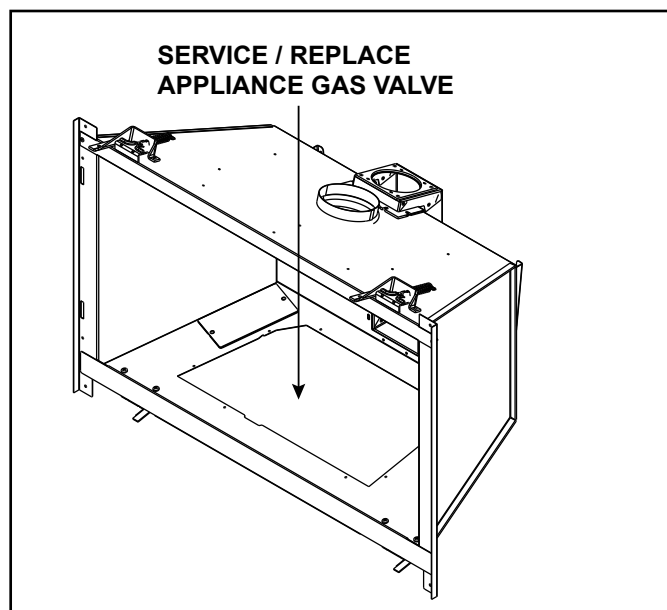

Figure 7.6 Gas Valve Detail
- See Figure 7.6.
- Remove appliance front, glass, logs, base pan assembly, burner assembly and valve plate assembly. See Figure 7.6.